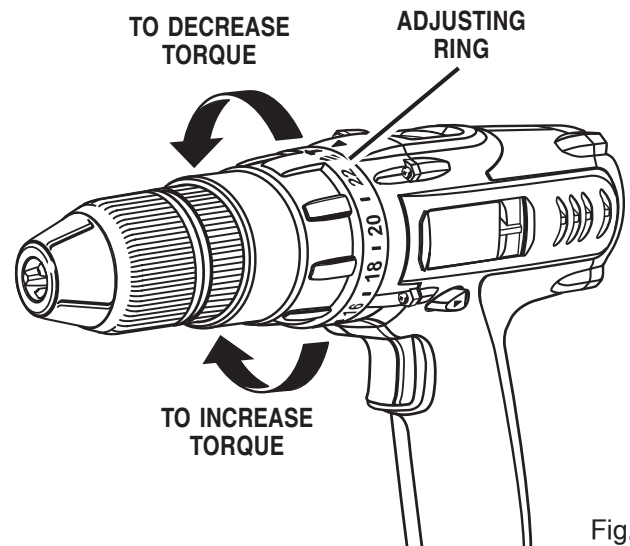

Fig. 13
- Identify the twenty four torque indicator settings located on the front of the drill. See Figure 13.